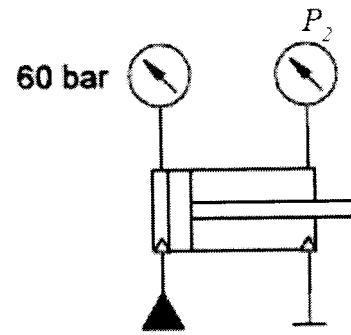

Figure H-1
1. Which statement is incorrect for the system in Figure H-1